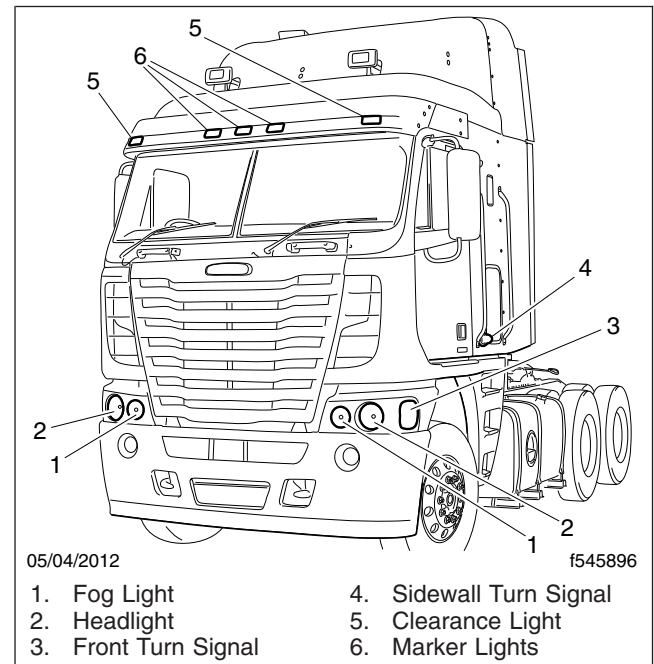

Fig. 23.8, Exterior Lights
11. Check the operation of all exterior lights. See **Fig. 23.8**.